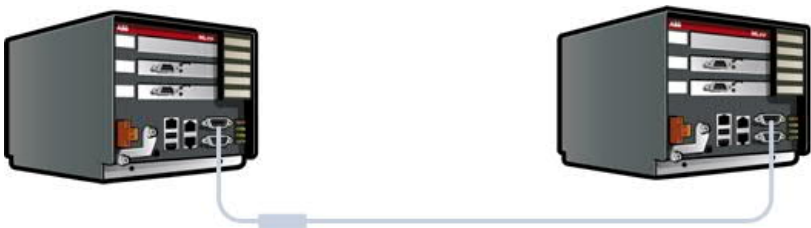

Figure 21 Serial 1 to serial 1 redundant link connections with ferrite core
- Redundant (two) DCS / PLC Master where each is connected to one Digital Gateway (see example Figure 21)